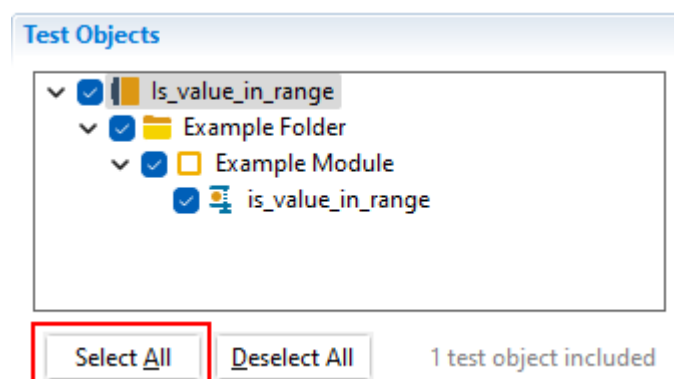

Figure 6.56: Selecting all text objects
- Under “Test Objects” choose the project or modules or test objects for the batch test. Click “Select All” to select all at once (see figure 6.56).